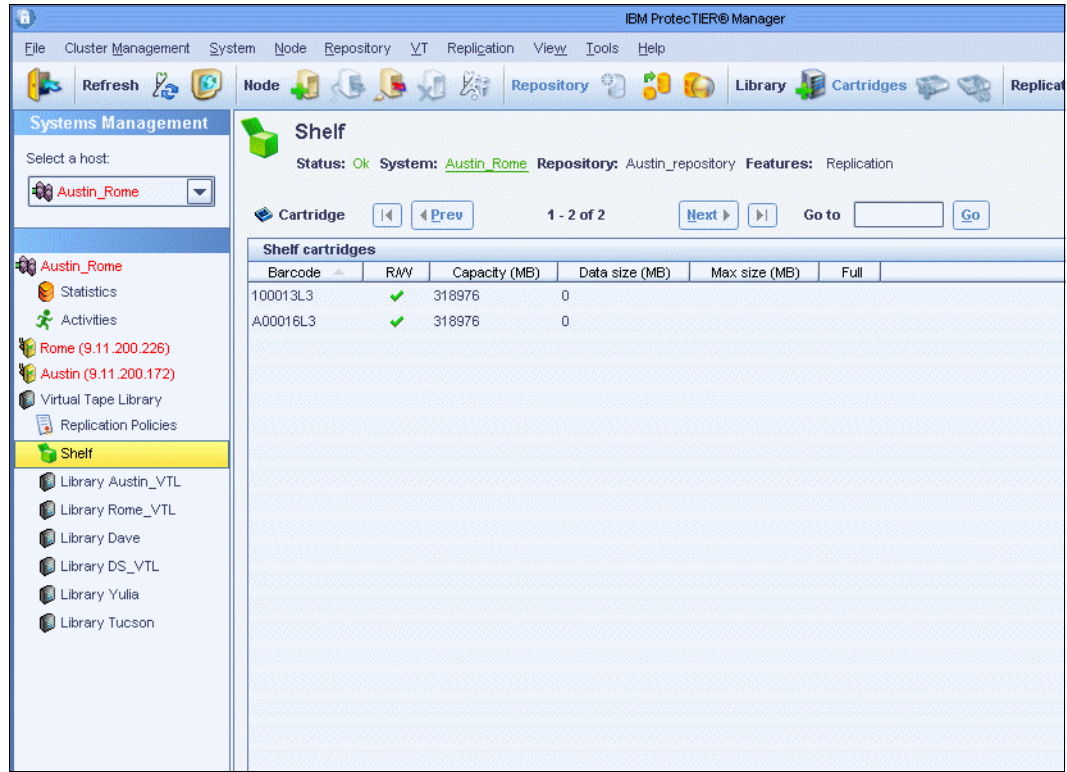

Figure 10-140 The cartridge has been moved into the shelf
- From the Services pane, select **Shelf**. You can find the 100013L3 tape cartridge (Figure 10-140).